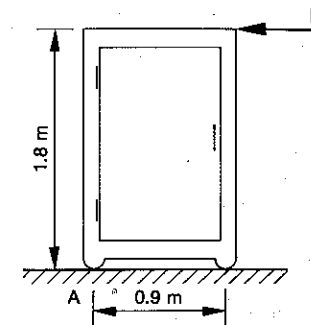

Fig. 5.12
- 5.11 Determine the force F required to start to tip the cabinet shown in Figure 5.12, if the mass of the cabinet is 50 kg.